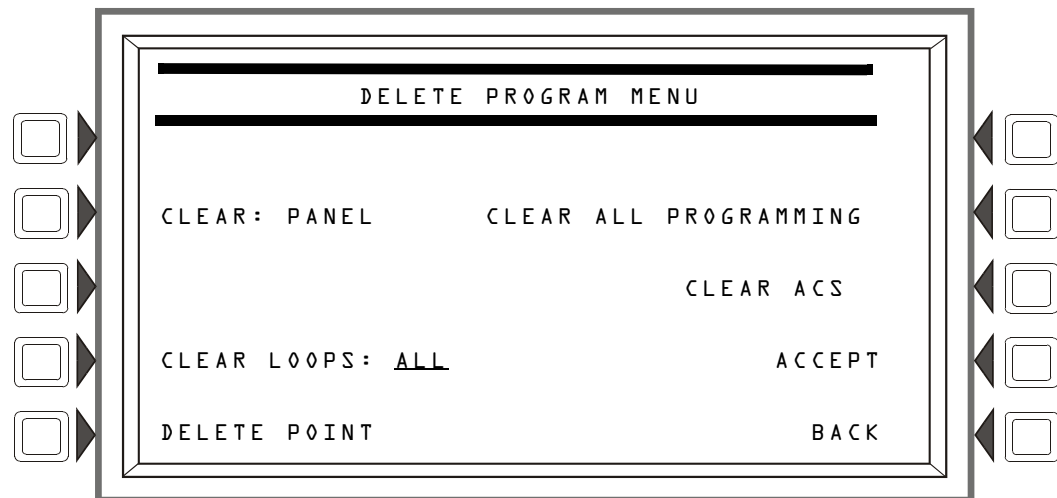

Figure 3.60 Delete Program Menu Screen
1. Use the Delete Program Menu screen (refer to Figure 3.60) to clear any applicable programming from the panel. For example, if loops one and two are to be autoprogrammed, clear the programming that exists by entering **1+2** at the Delete Program Menu screen.